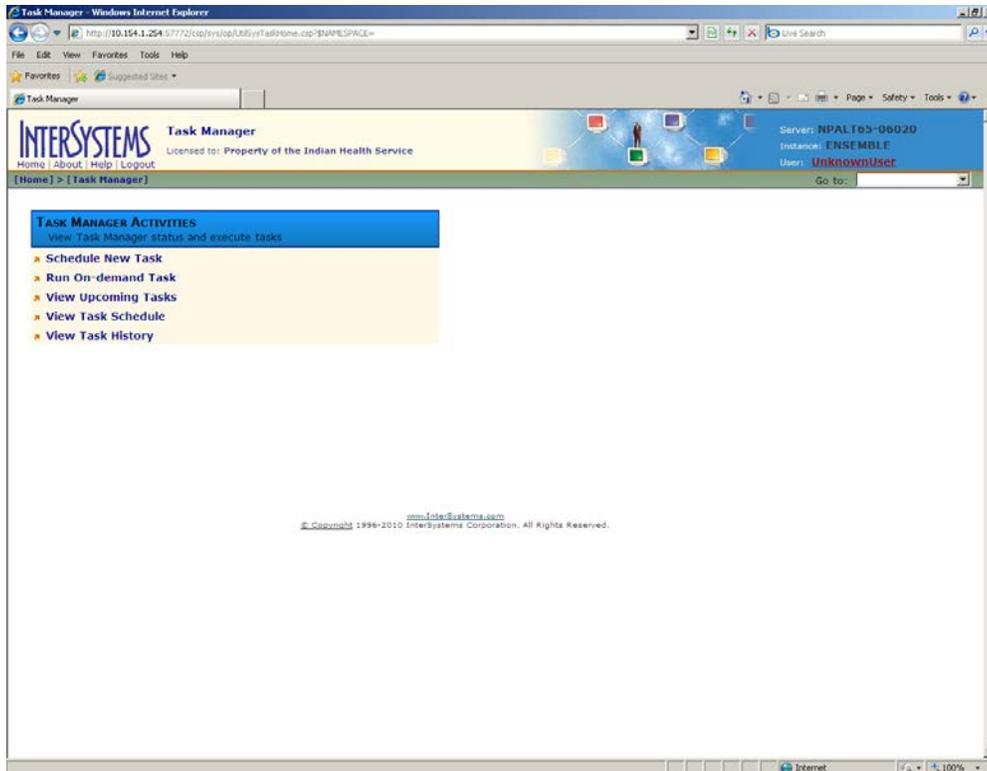

Figure C-2: **Task Manager** page
- On the **System Management Portal** page, click **Task Manager** to display the **Task Manager** page, as shown in Figure C-2.